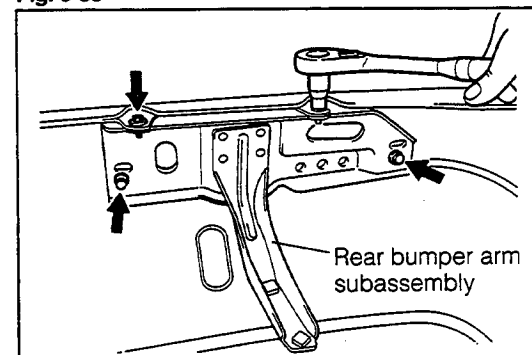

Fig. 9-39
1. Install the rear bumper arm subassembly to the rear bumper subassembly. (See Fig. 9-39.)